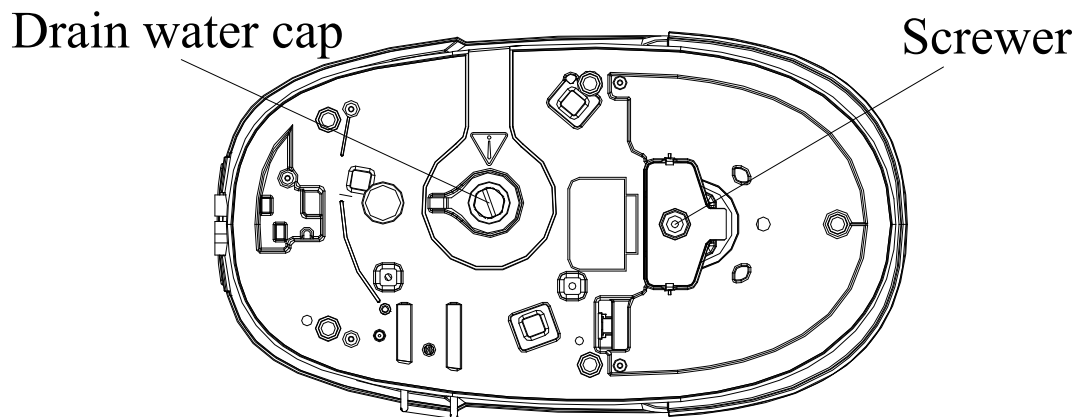

Fig. 1
Open the cap for cleaning the steam generator (see Fig. 1).
3. To remove the mineral deposits collecting at inner steam generator, firstly put the iron horizontally on a level surface, then tilt the steam generator, pull back the boiler cap and unscrew the drain water cap with the screwdriver which is attached to the underside of the base unit (see Fig. 1).